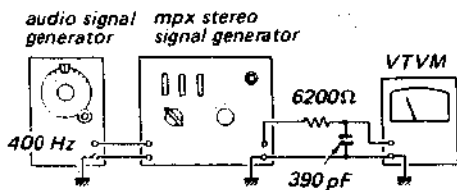

Fig. 8 Input level setting setup
- 2-1. Make the test setup as shown in Fig. 8.